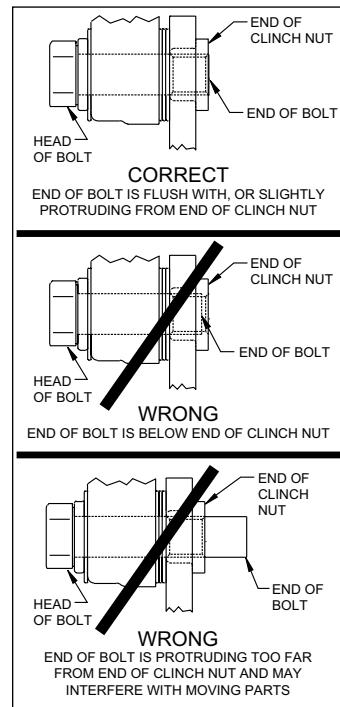

Figure 4. Clinch Nut Engagement Diagram
CAUTION: All mounting bolts must fully engage clinch nuts. Be sure to check that all bolts are either flush or protruding through flanged side of clinch nut after shimming, Figure 4.
(23) between the spindle bracket (1) and the caliper bracket. Always use the same amount of shims on each of the two mounting bolts. **NOTE:** *The end of each bolt must be flush with or slightly protruding from the head of the clinch nut, as shown in Figure 4.* If necessary place spare shims between washer (22) and caliper mounting bracket to achieve the proper clinch nut engagement. Once the caliper alignment and clinch nut engagement are correct, remove the bolts one at a time, apply red *Loctite*® 271 to the threads, and torque to 40 ft-lb.